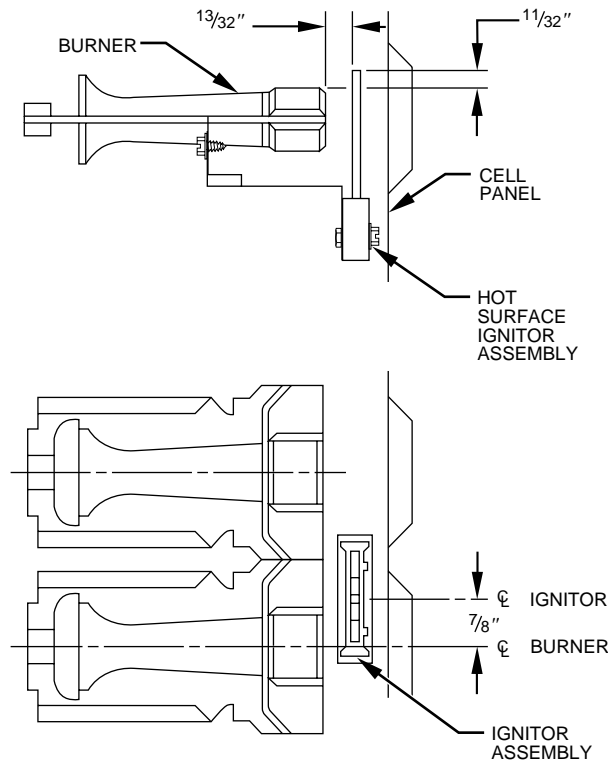

Fig. 10—Position of Ignitor to Burner
9. Reinstall main burners on manifold. Burners should be installed left to right to ensure proper alignment of the burner cross-over slot. (See Fig. 10.)